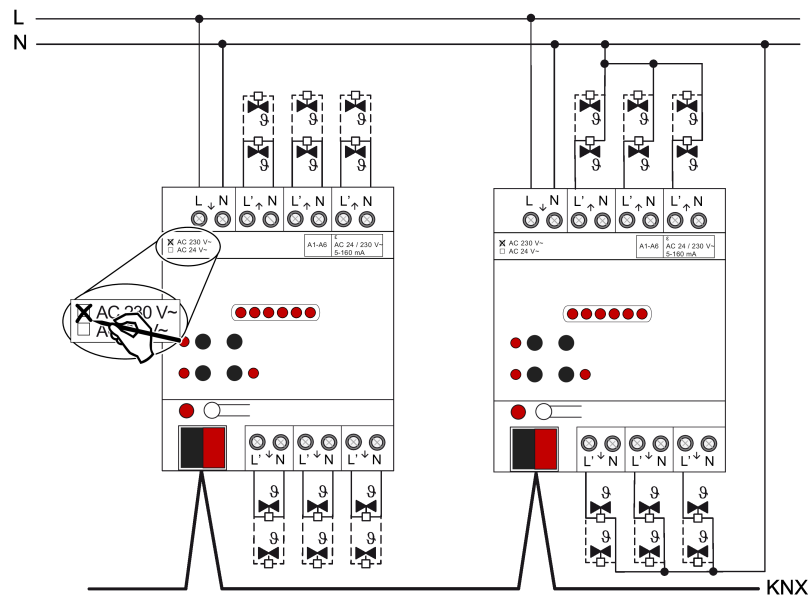

Figure 3: Connection for AC 230 V actuators (connection examples)
- Connect AC 230 V valve drives according to the connection diagram (see figure 3). The neutral conductors of the actuators can either be connected directly to the N terminals of the outputs of the heating actuator (left-hand con-